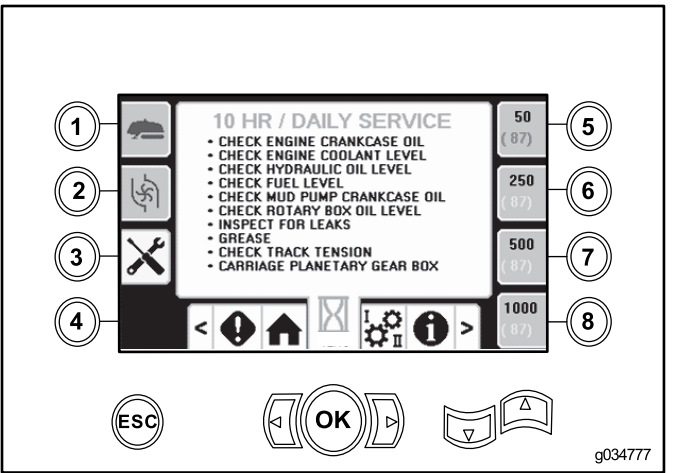

Figure 42
- Button 3—10-hour/Daily maintenance schedule (Figure 42)